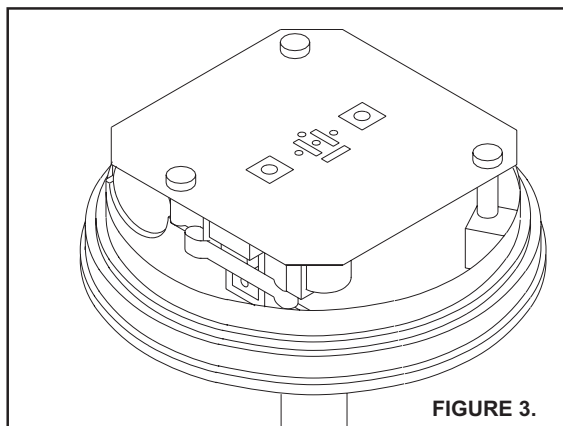
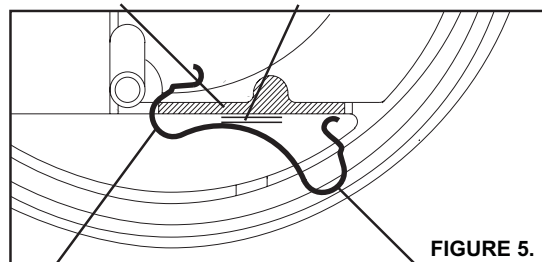

FIGURE 3.
FIGURE 5.
**FIGURE 3.** Use the transistor spring clip to secure firmly the Cho-Therm insulator and the power supply transistor to the mounting boss of the cast aluminum base. Wrap one end of the clip around one side of the mounting boss, then press the other end in position using needle nose pliers. (See figure 5 and note in figure 4 "B").